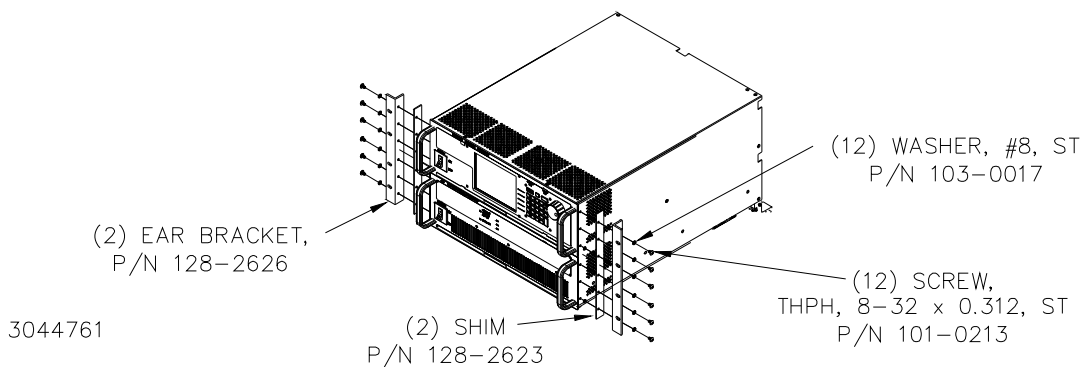
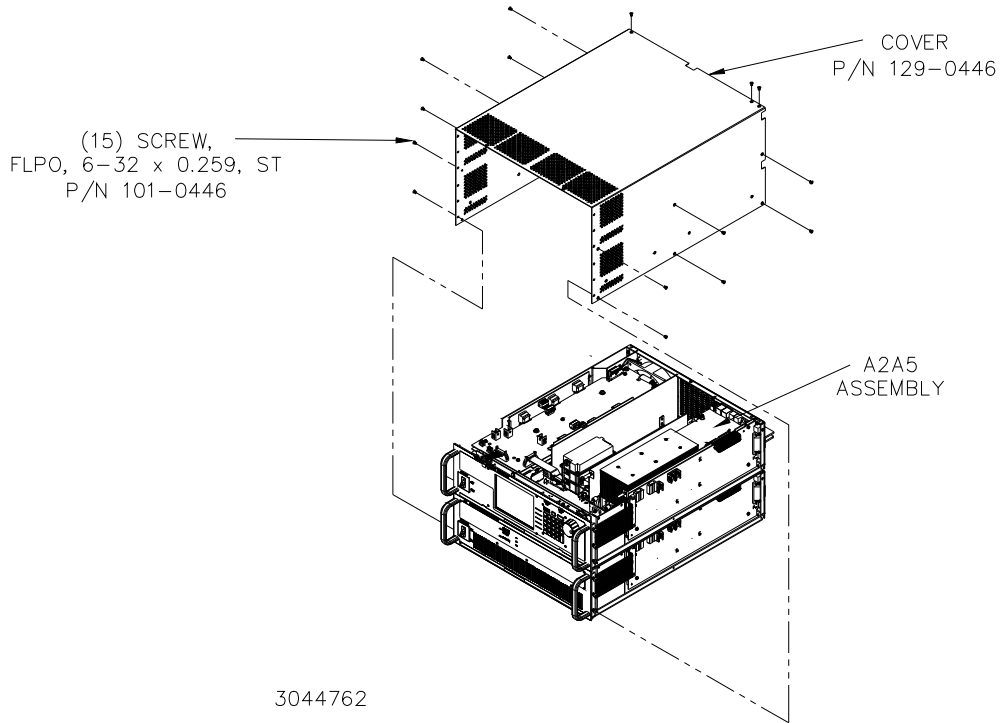

FIGURE 2. EAR BRACKET REMOVAL
FIGURE 3. COVER REMOVAL AND A2A5 ASSEMBLY LOCATION
1. Remove two ear brackets and two shims from front of chassis by removing 12 screws (see Figure 2).
- Remove top cover from chassis by removing 15 screws: six screws from each side and three screws at the top (see Figure 3)
- Reinstall ear brackets and shims (see Figure 2), then reinstall cover (see Figure 3).